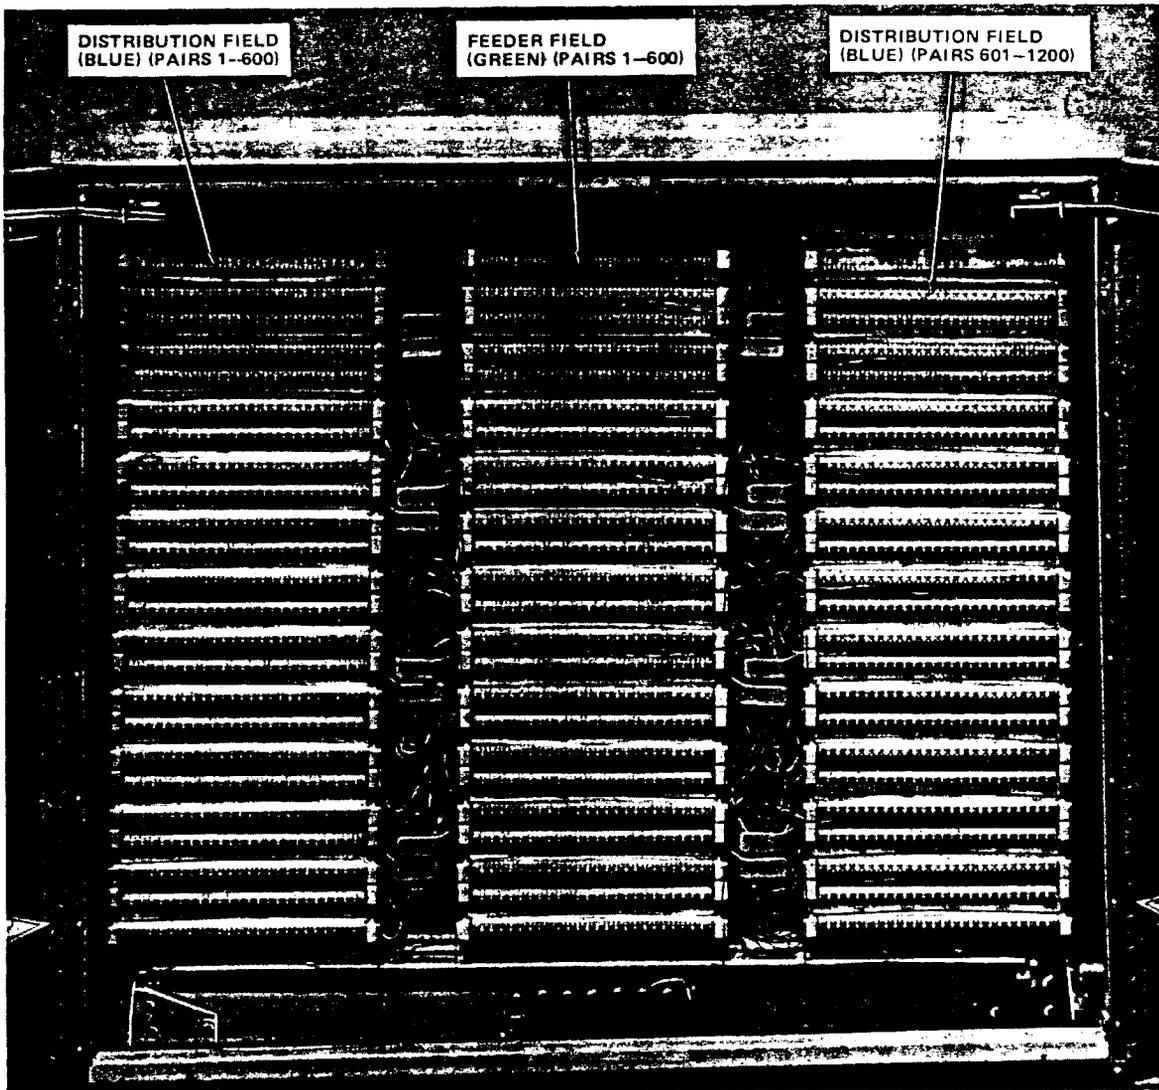

Figure 1. Method of Pair Identification—40-Type Cabinet Equipped with Three Panels of 108 Connecting Blocks
- 2.01** Before proceeding, it is important that craft personnel become familiar with the following methods of pair identification (Figures 1, 2, 3, 4, 5, and 6):